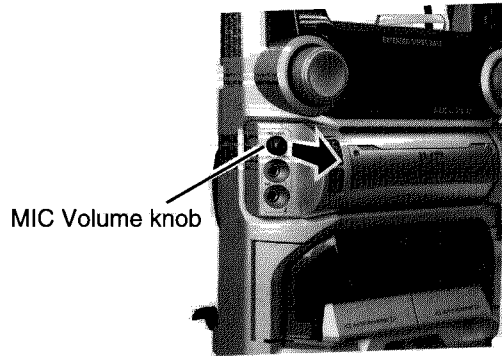

Fig.10
■ **Removing the Microphone terminal board assembly** (See Fig.10 and 11)